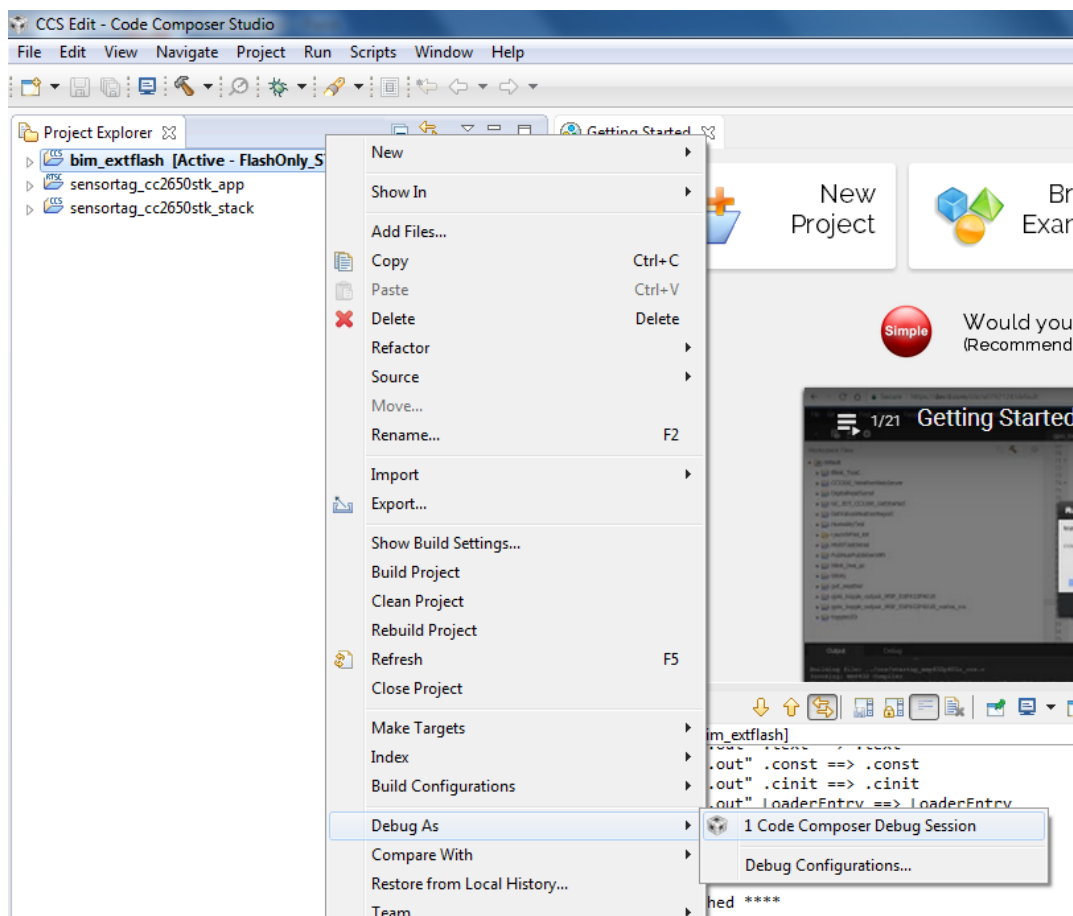

Figure 35, Download/Debug.
- 7) Download/Debug the bim\_extflash project. (Figure 35)